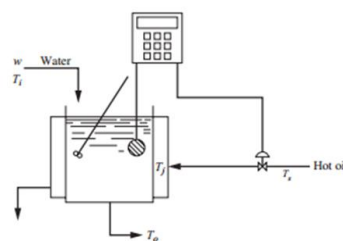

Fig.Q.4C
- 4C.** Identify the process in Fig.Q.4C and draw a cascade control loop for the system. 2